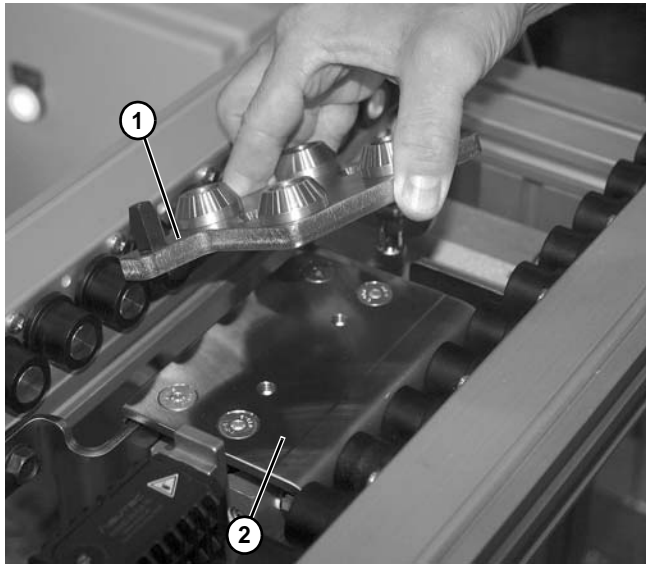

Figure 97
4. Remove lift station platform (Figure 97, item 1) from mounting plate (Figure 97, item 2).